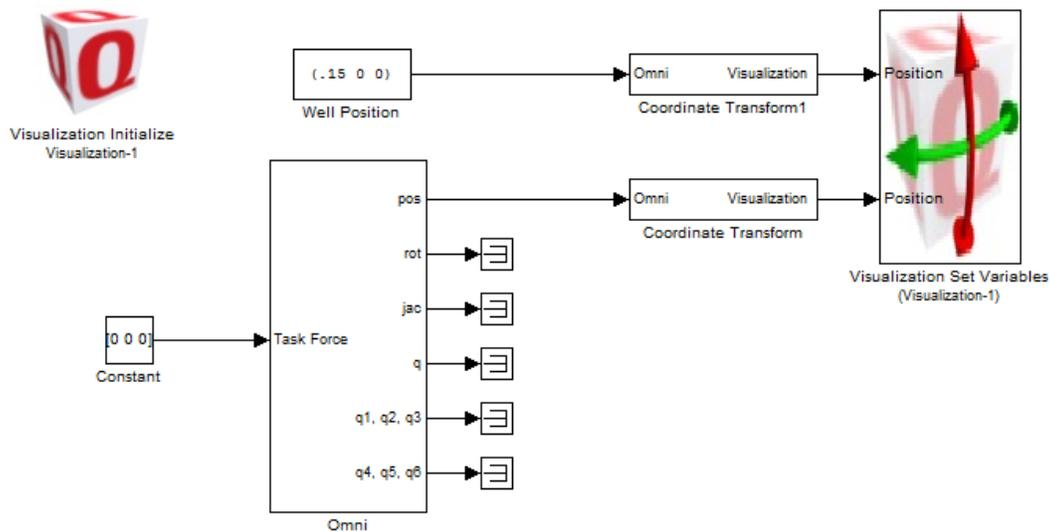

Figure 10.8: Visualization variables configured
- Now the right hand side of the model is complete. Set the *Task Force* input to $[0 \ 0 \ 0]$. Your model should now resemble Figure 10.8.